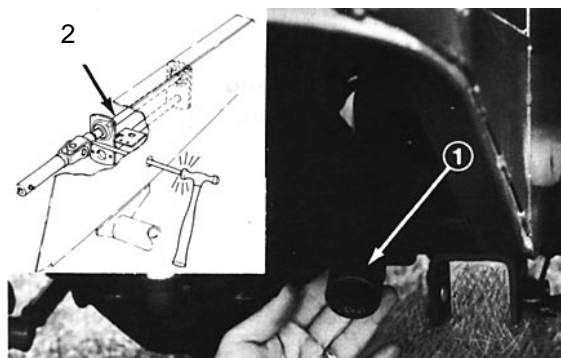

Figure 8
2. Remove (5) wheel nuts and slide the wheel off the axle to expose the access hole in the side of the chassis (Fig. 8).
3. Rotate the PTO shaft to align the hole in the PTO shaft with the hole in chassis (Fig. 8).
4. Through the access hole in the chassis, drive the roll out of the PTO shaft and output shaft with pi punch and hammer (Fig. 8).
6. Reinstall the wheel with (5) wheel nuts previously removed. Tighten the nuts to 80–109 kPa.